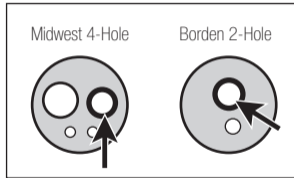

Fig. 10
- 3) Insert the Spray Nozzle into the Drive Air Port of the handpiece. (Fig. 10) Hold the handpiece and spray for approximately 2-3 seconds. Apply lubricant until it expels from the handpiece head for at least 2 seconds.
- 2) Apply 1-2 drops of lubrication oil into the Drive Air Port shown in the Fig. 10.